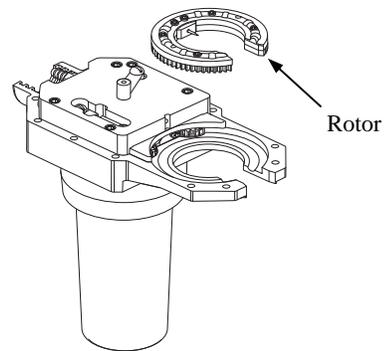

*Figure 26 Removing the Work Extension*
3. Remove the work extension screw, lock washer, and the work extension. Inspect the work extension for pitting, wear, or damage. See Figure 26.